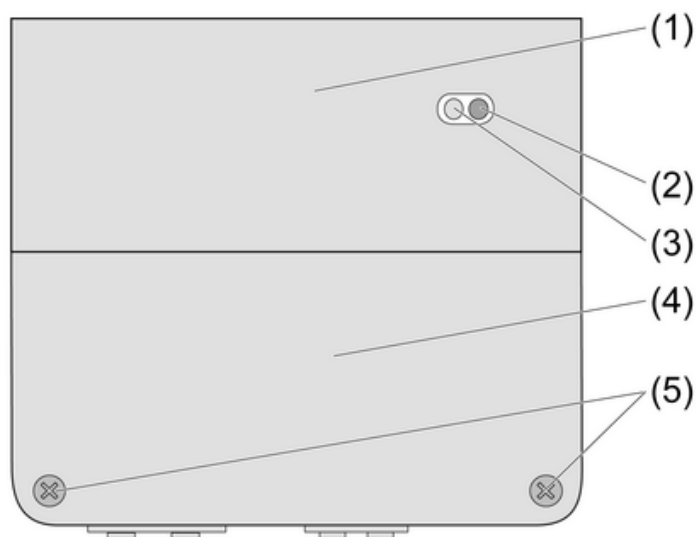

Figure 1
La LED rouge (2) Prog clignote (figure 1).